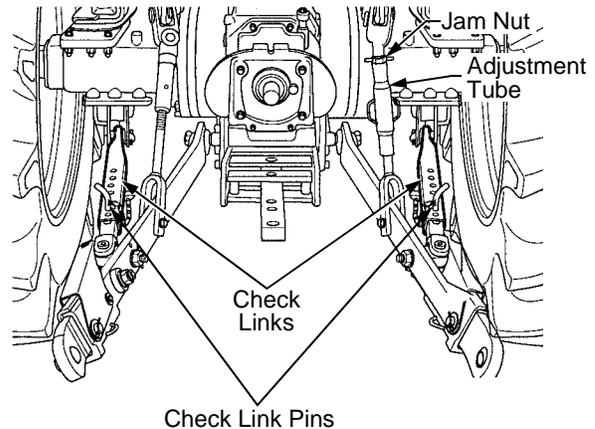

Figure 38
- Loosen the jam nut on the right lift rod and adjust its length as necessary to level the two lower links by turning the adjustment tube. Re-tighten the jam nut. See Figure 38.
Remove the pins and adjust the length of the check links to limit, or increase, the side to side movement of the lower links as suggested in the implement owner's manual. Refer to Figure 38.